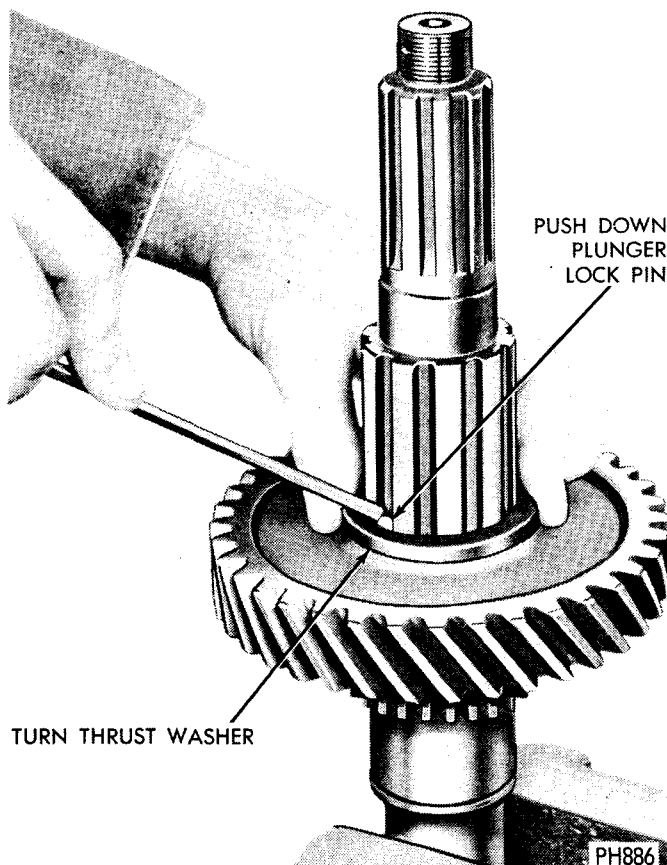

Fig. 6—Removing Second Speed Gear Thrust Washer (540 Mainshaft)
(2) Remove second speed gear by depressing plunger lock, (Fig. 6) and rotating splined thrust washer. Plunger lock is spring loaded—do not lose plunger or spring. On the 542 remove snap ring and thrust washer.
(3) Remove second-third speed synchronizer unit.
(4) Clamp mainshaft in vise equipped with soft jaws and remove fourth and fifth speed synchronizer assembly, clutch gear snap ring (use snap ring pliers), and clutch gear.
(5) Remove fourth speed gear and shim (or shims).
(6) Remove third speed gear snap ring and tapered thrust washer. Remove third speed gear. The second-third speed synchronizer clutch gear is integral with mainshaft.
(5) Place fourth-fifth speed synchronizer clutch gear (with oil slots down) on mainshaft. Select a snap ring of greatest possible thickness (available in four sizes, marked A,B,C,D) to eliminate all end-play of the clutch gear.
(6) Remove mainshaft from vise and install second-third speed synchronizer group. Synchronizer sleeve is marked "FRONT" for proper installation.
(7) Place second speed gear on shaft. On 540 lock in place by installing plunger spring, plunger and splined thrust washer. Push in plunger, (Fig. 6) and lock the washer by rotating until splines are aligned. On the 542 install thrust washer and snap ring. Place first speed gear on shaft with fork groove facing front end of shaft.